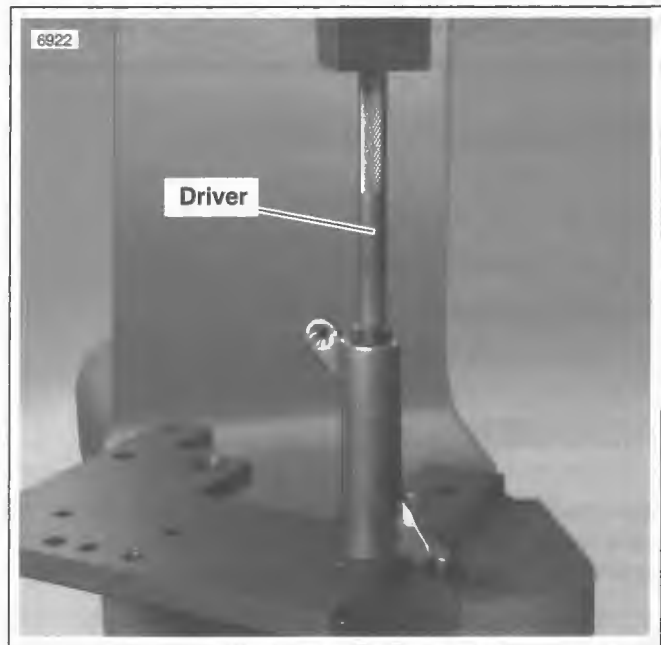

Figure 3-93. Install Bushings
- See Figure 3-93. Using a suitable driver, press **new** bushing into side of rocker arm until flush with casting. Be sure to orient bushing so that split line faces top of rocker arm. Repeat step to install second bushing.